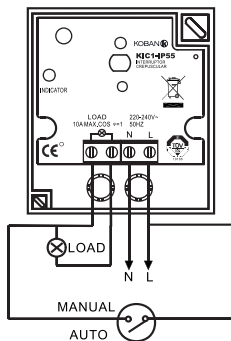

FIG.4
- Connect the cable as per the wiring diagram shown in FIG.4. (Make sure the device is wired correctly.)